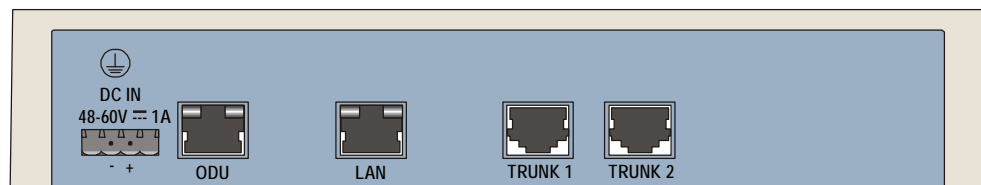

Figure 2-2. Typical IDU Rear Panel
3. Connect the ODU cable to the RJ-45 connector on the IDU designated ODU or WAN. *Figure 2-2* illustrates a typical IDU rear panel. *Figure 2-3* illustrates a typical IDU-E front panel. There may be differences in the panels of depending on the versions of the IDU.